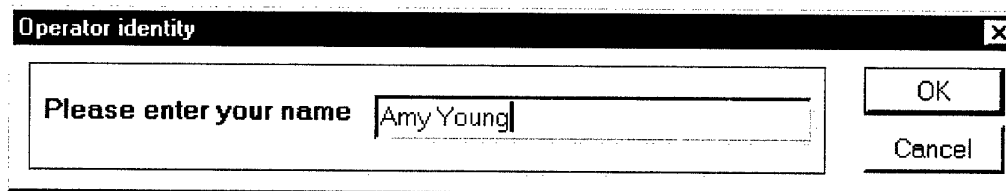

Figure 22: Operator Identity Dialog box
You will now be asked to enter your name (Figure 22). This is only stored by Sonarview if contacts are marked and saved (7), and can be changed from within Sonarview at any time. Enter name as requested, or leave it blank, and hit enter or click OK.